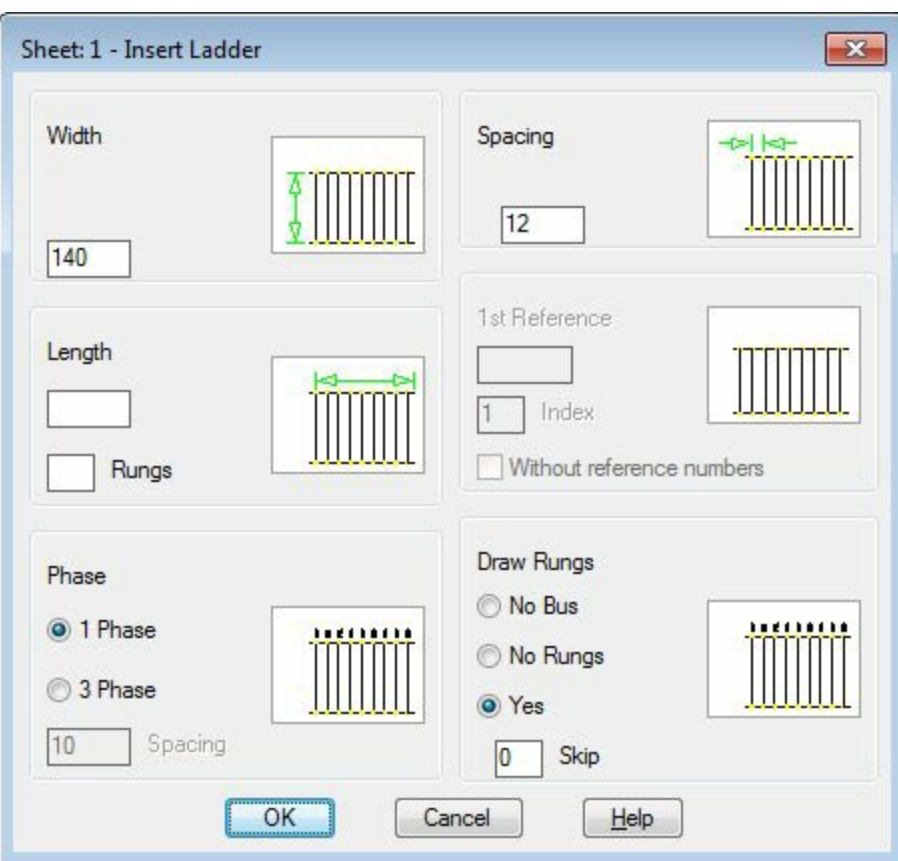

Figure-15. Sheet1 Insert Ladder dialog box
- Click on the **Insert Ladder** tool in the **Ladder** drop-down. The **Sheet 1: Insert Ladder** dialog box will be displayed as shown in Figure-15.